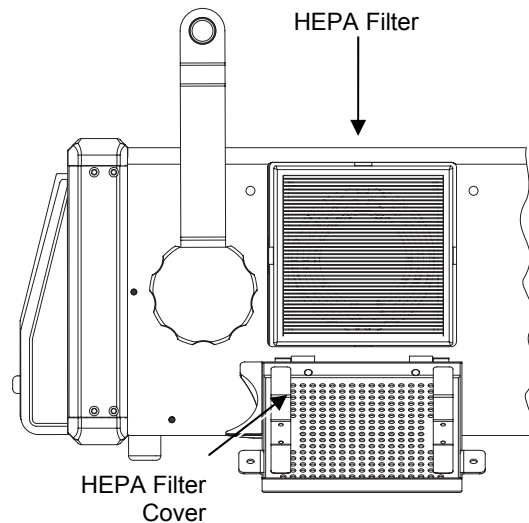

Figure 111 HEPA Filter Location
5. Swing the HEPA filter cover open to reveal the HEPA filter. See Figure 111.